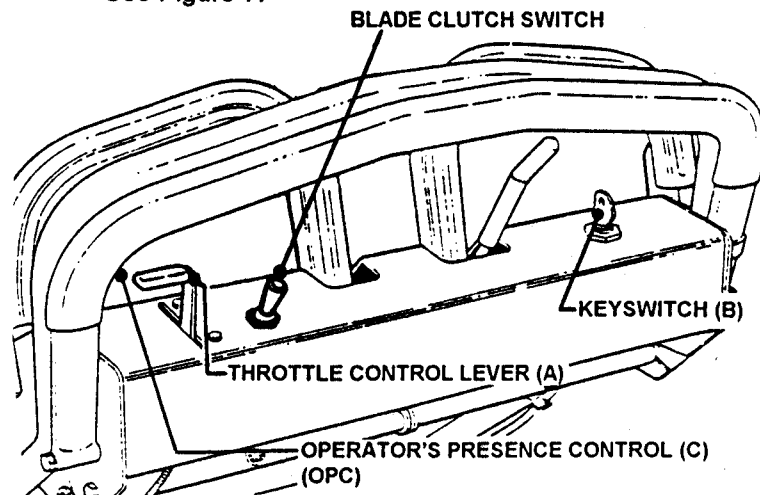

FIGURE 7
- 4a. LOOP HANDLE -Pull Blade Clutch Switch backward (toward operator) to the OFF position. See Figure 7.
- 9. Place Transmission Shift Lever in No. 1 position (first gear). See Figure 7.
- 10a. **LOOP HANDLE** - Push Blade Clutch Switch/Lever to **ON** position. See Figure 7.